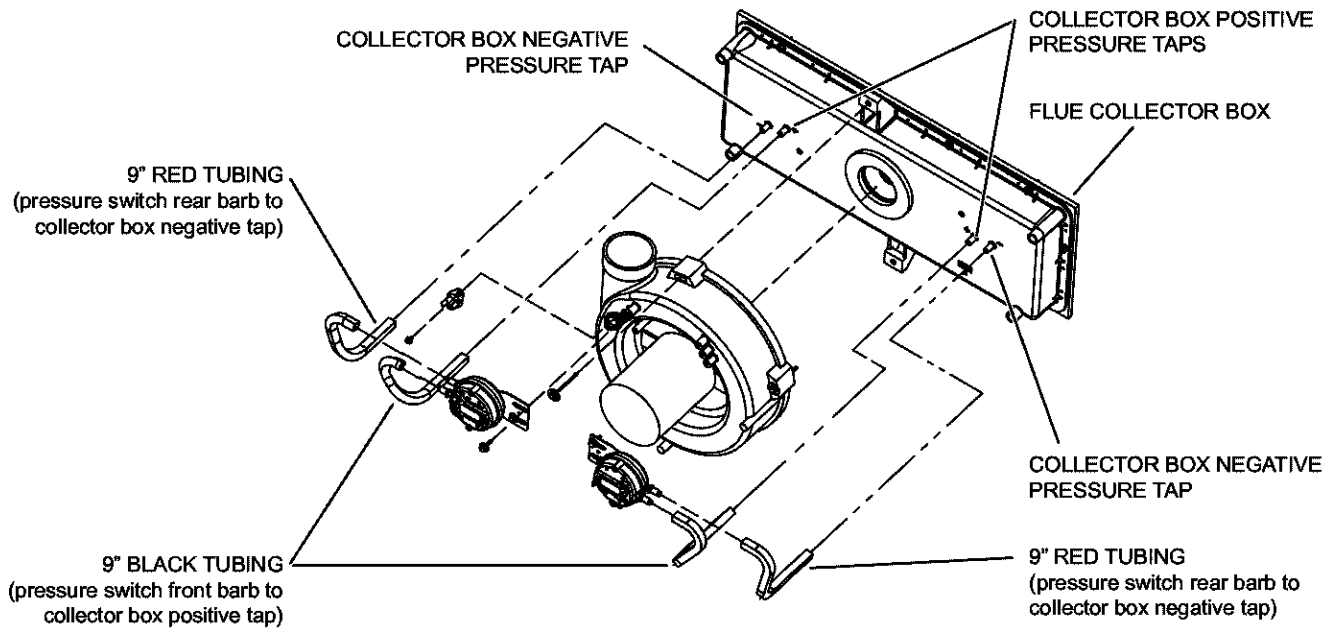

Figure 4
12. Re-attach the pressure switch tubing as shown in figures 4 and 5).